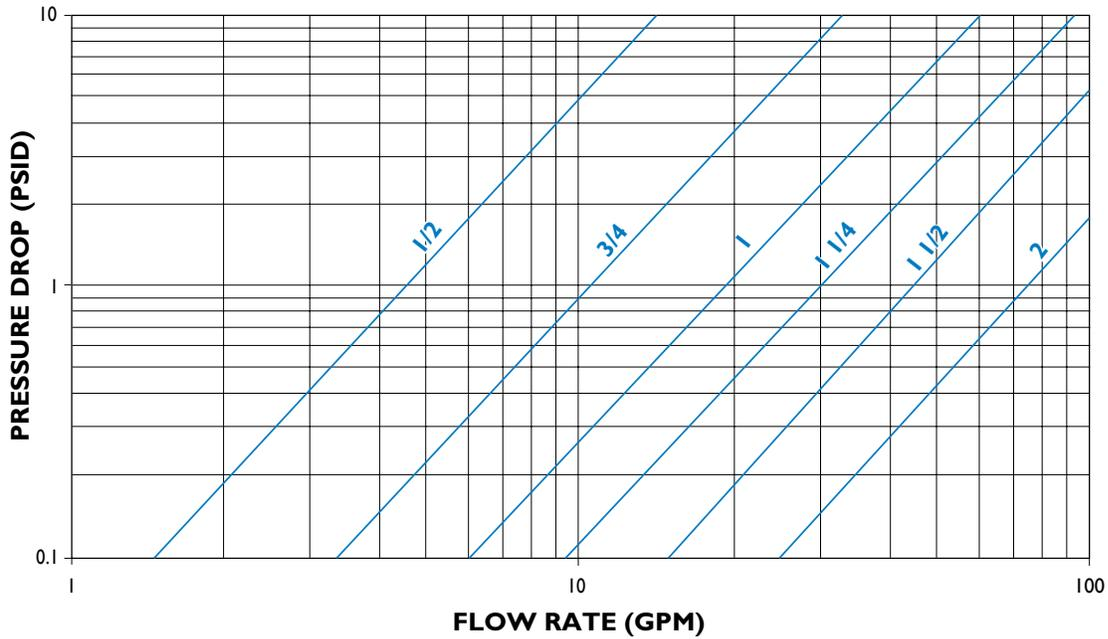

FIGURE 1
\*Multiply values obtained from figure 1 thru 2 by the appropriate values shown below
- A)** Using figure 1 the pressure drop is determined to be 0.9 psig with IFC's standard screen.
- 1) Using figures 1 or 2 determine the pressure drop (P1) through the strainer with water flow and standard screens.
- 4) Using chart #2 multiply P3 by the appropriate Component Factor (CF) to get P4.
- 6) Multiply P4 by the appropriate Body Loss Factor (BF) in chart #3 to get P6.
\* Multiply values obtained from figures 1 thru 2 and charts #1, #2 and #3 (if used) by the appropriate values shown below